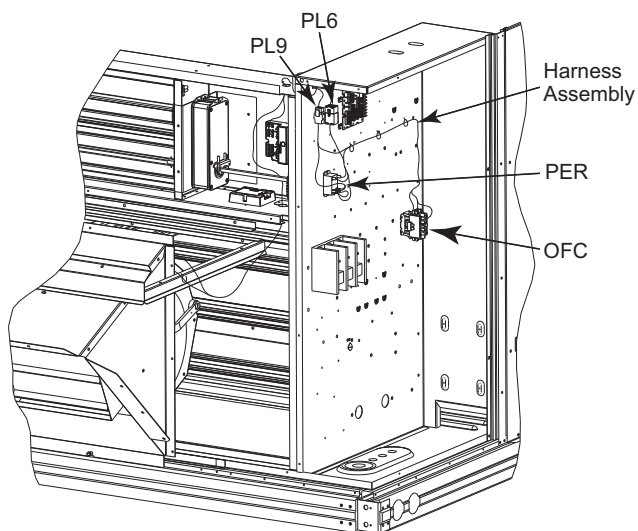
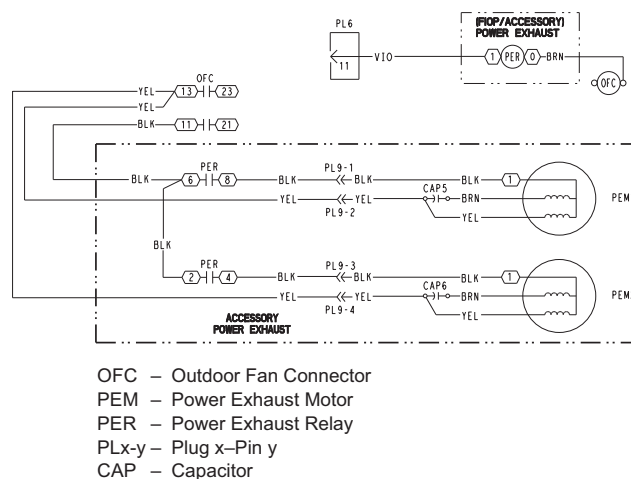

Fig. 2 - Power Exhaust Wiring Installation
Fig. 3 - Power Exhaust Wiring Diagram
5. Install wiring harness (50HEMRAX-A00) in the control box as shown in Fig. 2. Refer to Fig. 3 (Power Exhaust Wiring Diagram) for point to point connections. Wiring harness label near terminals should match connection point in control box.